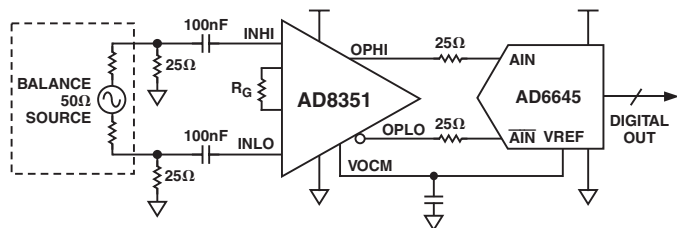

Figure 7. ADC Driving Application Using Differential Input
The circuit in Figure 7 represents a simplified front end of the AD8351 driving the AD6645, which is a 14-bit, 105 MSPS A/D converter. For optimum performance, the AD6645 and the AD8351 are driven differentially. The resistors R1 and R2 present a 50  $\Omega$  differential input impedance to the source with R3 and R4 providing isolation from the A/D input. The gain setting resistor for the AD8351 is  $R_G$ . The AD6645 presents a 1 k $\Omega$  differential load to the AD8351 and requires a 2.2 V p-p differential signal between AIN and  $\overline{\text{AIN}}$  for a full-scale output. This AD8351 circuit then provides the gain, isolation, and source matching for the AD6645. The AD8351 also provides a balanced input, not provided by the balun, to the AD6645, which is essential for second-order cancellation. The signal generator is bipolar, centered around ground. Connecting the VOVM pin (10) of the AD8351 to the VREF pin of the AD6645 sets the common-mode output voltage of the AD8351 at 2.4 V. This voltage is bypassed with a 0.1  $\mu\text{F}$  capacitor. Increasing the gain of the AD8351 will increase the system noise and thus decrease the SNR but will not significantly affect the distortion. The circuit in Figure 7 can provide SFDR performance of better than -90 dBc with a 10 MHz input and -80 dBc with a 70 MHz input at a gain of 10 dB.